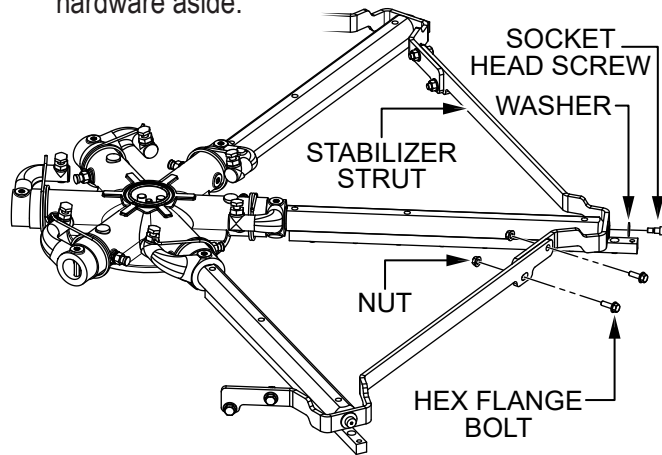

Figure 45. Stabilizer Ring Removal
1. Remove the hardware securing the **stabilizer struts** to the trowel arms (Figure 45). Set the struts and hardware aside.